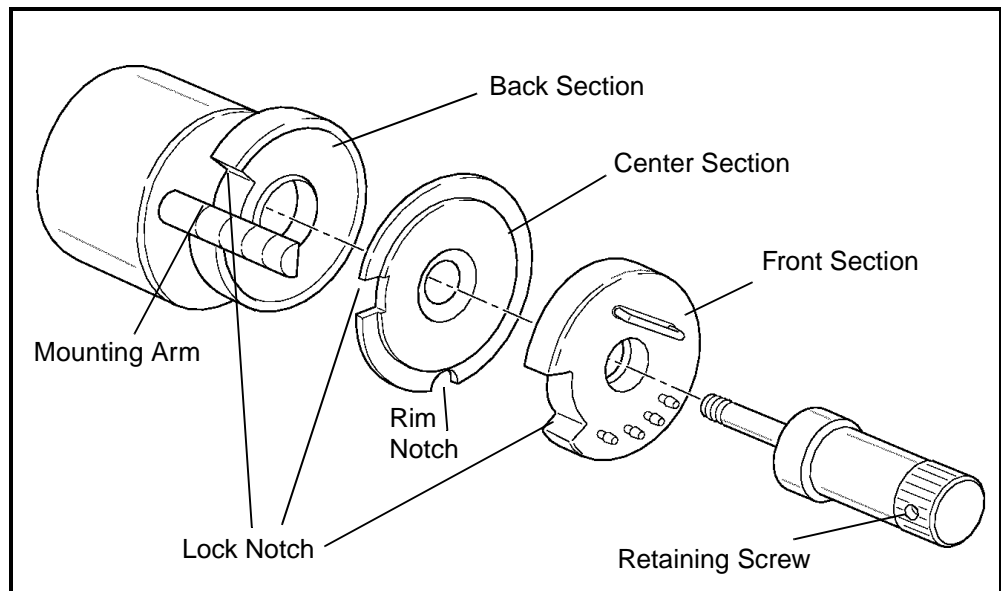

Figure 9.10: Shear Valve Assembly
Regular cleaning of the Shear Valve ensures accurate and precise performance. Any reagent or blood residue may cause the valve to leak or function improperly. The shear valve assembly is depicted in Figure 9.10.
4. Turn the Shear Valve Retaining Screw counterclockwise until it can be removed. (Refer to Figure 9.10.)
14. Align the lock notch of the center section with the mounting guide. (Lock notch faces the mounting guide, smaller rim notch faces down.) Carefully slide this section back onto the mounting arm until it is flush with the rear section. (Refer to Figure 9.10.)